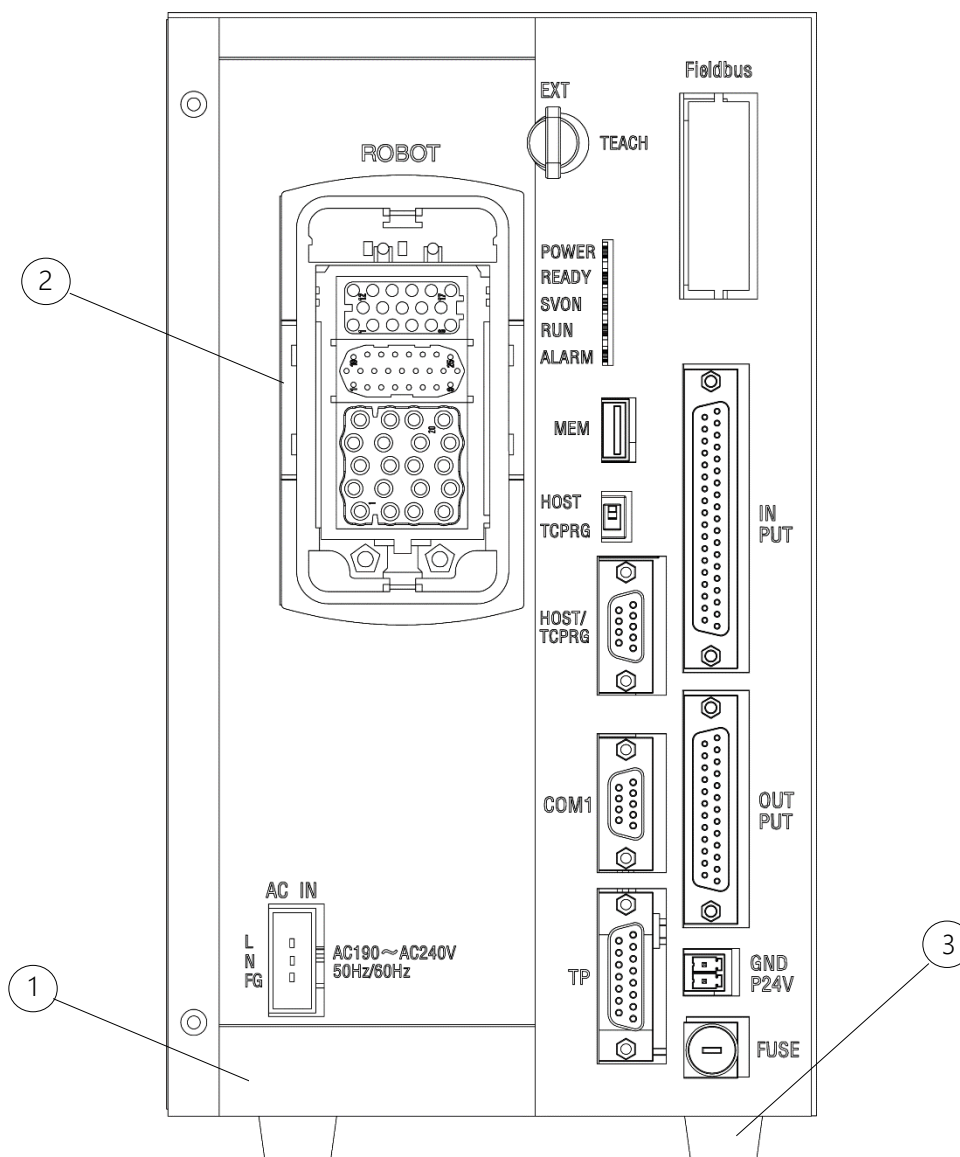

Figure 4.1 Controller connector layout
Figure 4.1 shows the cables connected to the controller.
4.1.2 "ACIN" connector for connecting the power cable (Figure 4.1-①)
The power cable is used to supply power to the controller. The ACIN plug connector (Figure 4.1 - ①) is supplied with the product.
4.1.3 "ROBOT" connector for connecting the motor cable (Figure 4.1-②)
4.1.4 "ROBOT" connector for connecting the encoder cable (Figure 4.1-②)
4.1.5 "ROBOT" connector for connecting the robot control signal cable (Figure 4.1-②)
4.1.6 "ROBOT" connector for connecting the brake signal cable (Figure 4.1-②)
4.1.7 "GNDP24V" connector for connecting the I/O signal power cable (Figure 4.1-③)
a) "ACIN" connector for power supply (Figure 4.1 - ①).
b) "ROBOT" connector for the motor, encoder, robot control signal, and brake signal cables (Figure 4.1 - ②)
- c) Connector for the power supply for external I/O signals "GNDP24V" (Figure 4.1-③)